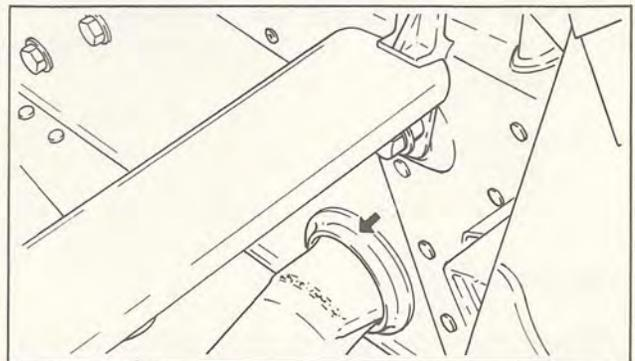

Fig. 4-8
- (8) Check the muffler protector for looseness. If loose, retighten. Otherwise, exhaust leakage, noise or frame cracking may result. (Fig. 4-8)